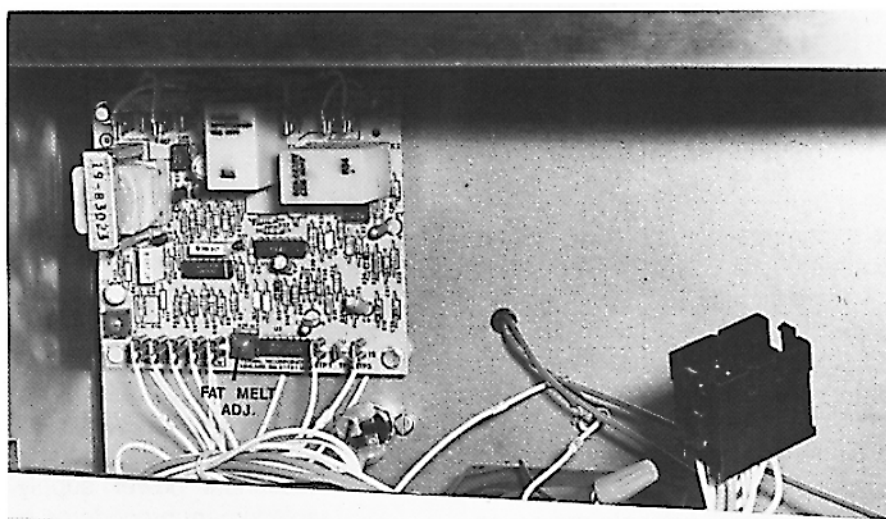

Fig. 3
- C. Disconnect power supply. Remove (2) screws from upper corners of control panel, drop the control panel down, disconnect the electric harness and remove panel.
- E. Locate fat melt adjustment screw resting in the bottom center of the board to the right of Pin #12 (Fig. 3).
To replace multi-function board, disconnect power supply and remove two screws in the upper corners of the control panel. Swing control panel assembly down, disconnect electrical harness and remove panel. The multi-function boards are located on the back wall of the control box area (see Fig. 3).